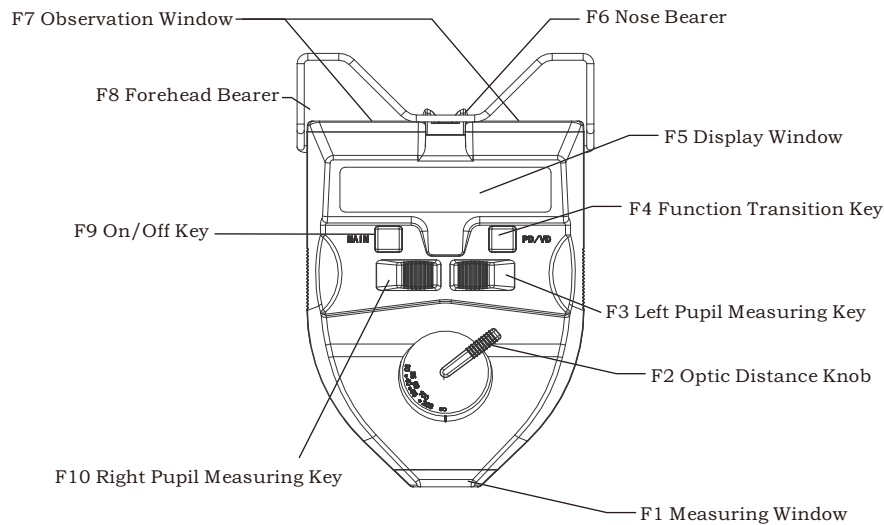

Fig.1
3.1 Description of the Front Panel(as shown in Fig.1)